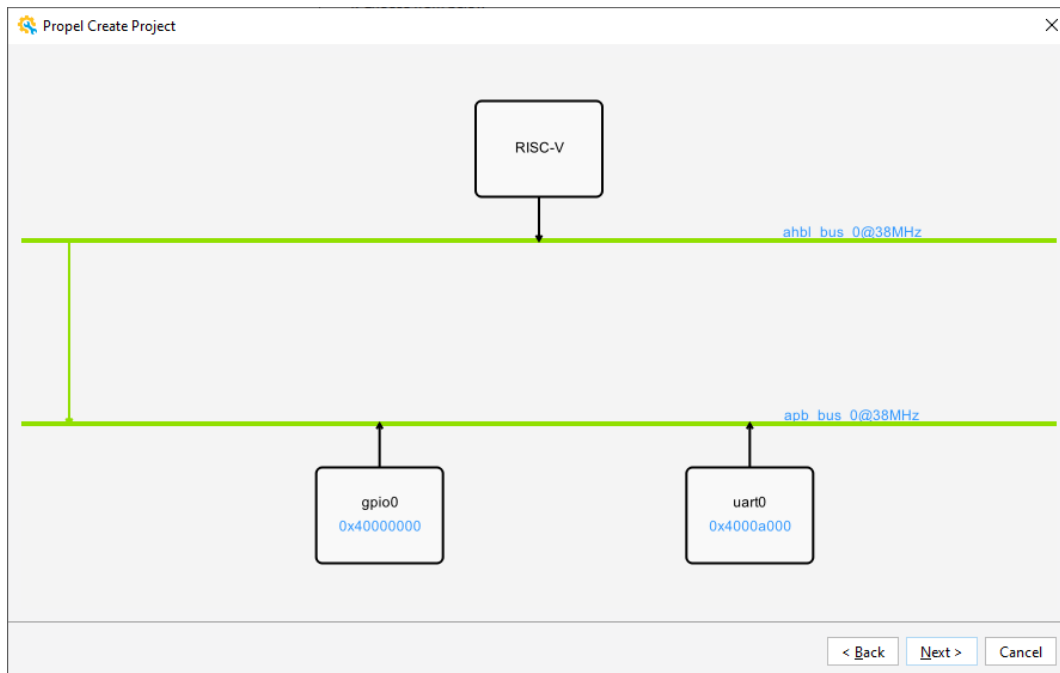

Figure 6.8. Architecture Page
6. Click **Next** on the architecture page (Figure 6.8).